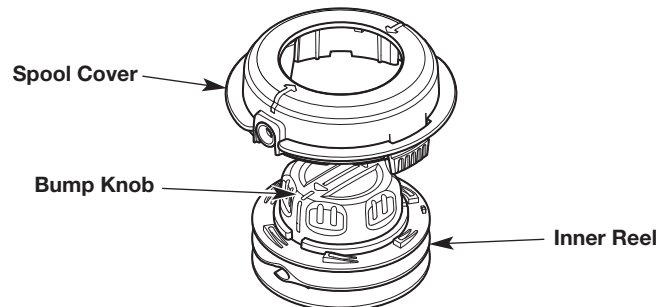

Fig. 10
2. If necessary, assemble the bump head: Insert the bump knob and inner reel into the spool cover (Fig. 10). Hold the two pieces together.